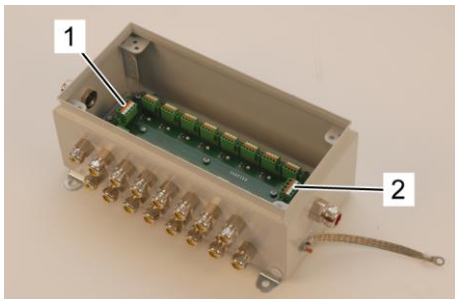

Fig.118: Bus connection in Terminal box
3. Check X17 (Fig.118/1) and X18 (Fig.118/2) respectively for correct cabling and insertion of the leads.